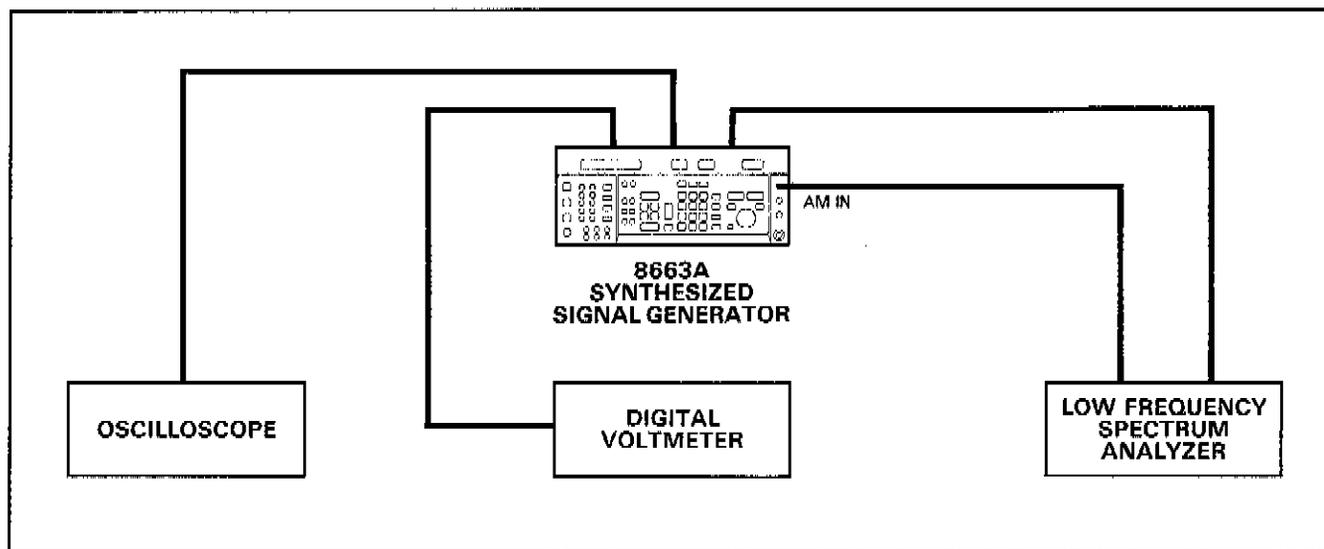

Figure 5-30. ALC Loop Bandwidth Adjustments Setup.
4. Use the knob on the Signal Generator to tune the output frequency over the sweep range given in the table. Observe the trace on the spectrum analyzer and determine the Signal Generator output frequency setting at which the trace is lowest where it crosses the 100 kHz point (see Figure 5-30). When the low setting is found, readjust the reference level for +3 dB at the 10 kHz point. Then set the Generator to this output frequency and on the A4A1 assembly make the adjustment shown in the table so that the trace crosses the center line (-3 dB) at the 100 kHz point.